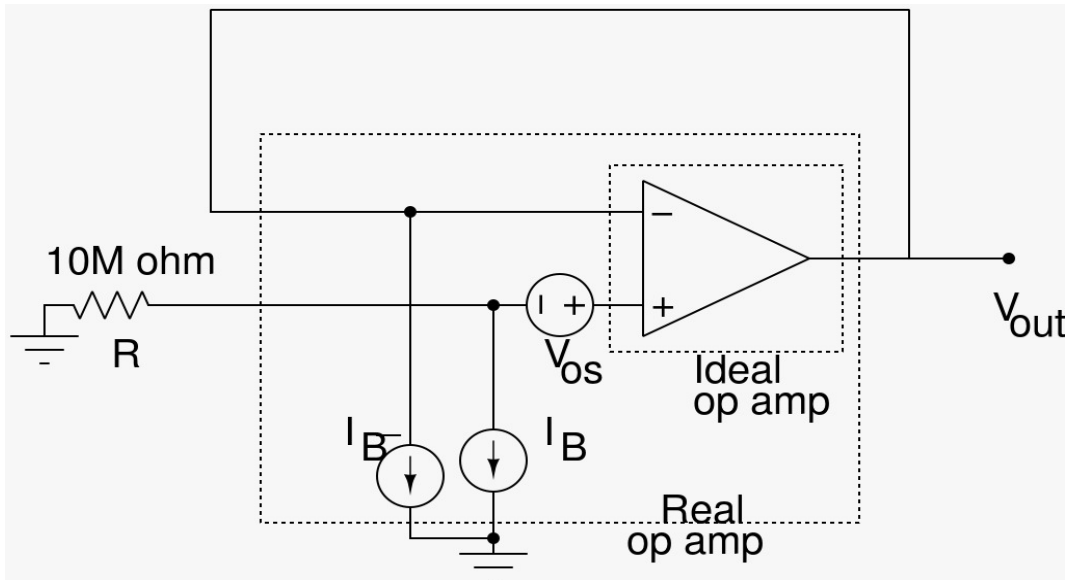

Figure 8: Equivalent internal circuit
4. What is the role of capacitor C in the circuit you used in the second part of the lab (i.e. in figure 8 of the hand-out)? (Hint: there is a statement in the hand-out mentioning why C is connected; could you explain why that statement is true?)